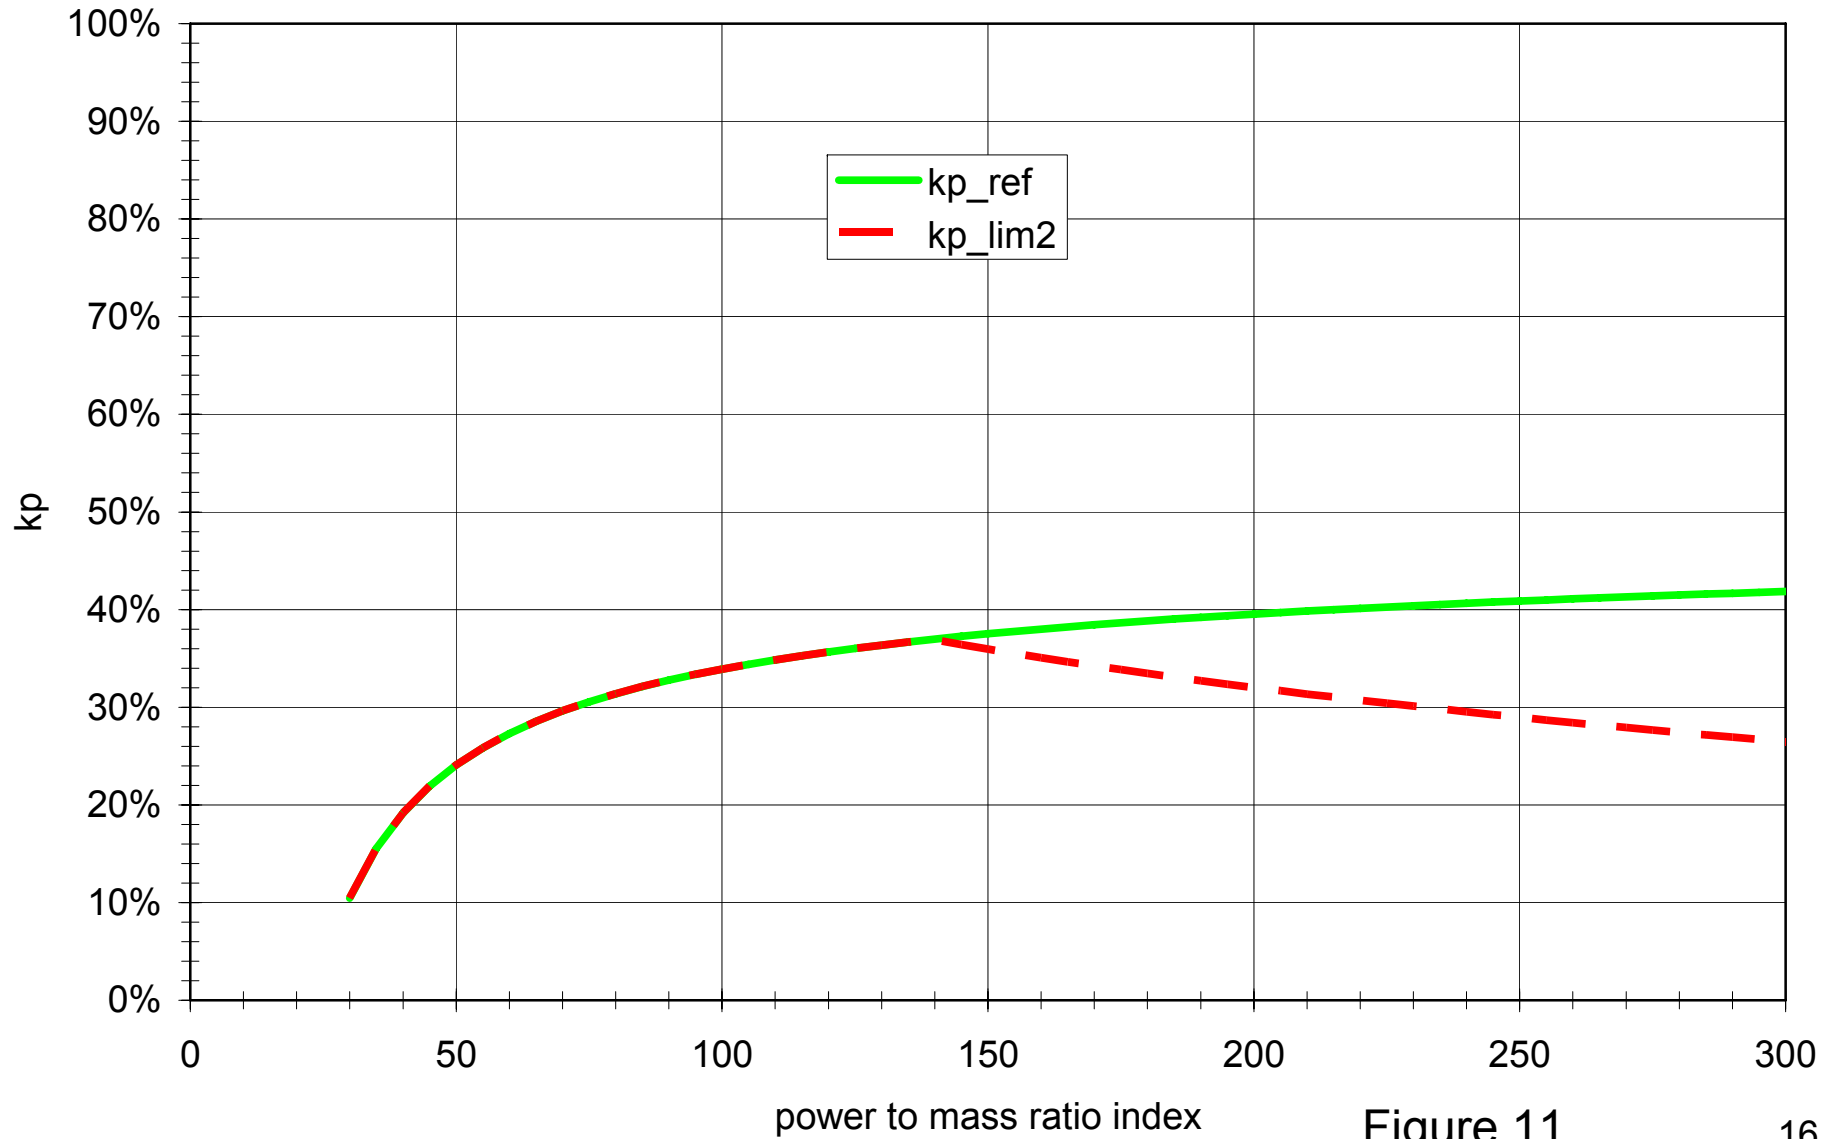

Figure 11
- The limitation of the acceleration in annex 3 to 2 m/s2 leads most probably to lower engine speeds than  $n_{ASEP\_ref}$  and lower  $k_p$  values than  $k_{p\_ref}$  (see figure 11).